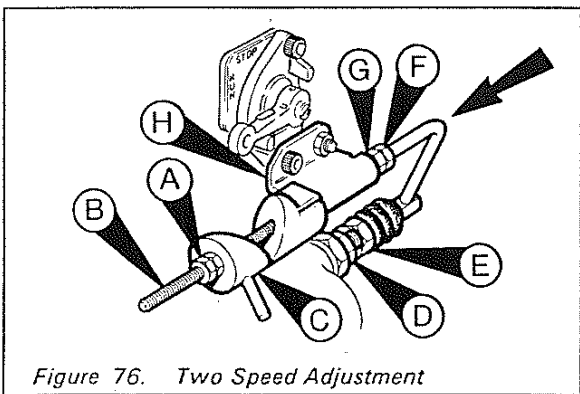

Figure 76. Two Speed Adjustment
1. Move the nuts (A) to the end of the control rod (B).
2. Move the control block (C) to the idling position; upwards from the position shown in Figure 76.
3. Slacken the locknut (D) and adjust the idling speed to approximately 1200r/min by screwing in the adjuster (E) to increase speed, or out to decrease it.
4. Tighten the locknut (D).
5. Slacken the locknut (F).
6. Move the control rod (B) in the direction of the arrow so that the nut (G) is hard against the bracket (H).
7. Maintain the nut (G) hard against the bracket and adjust the full speed by turning the nut anti-clockwise to increase speed or clockwise to decrease it. The speed should be set at 8% above the rated speed.
8. Tighten the locknut (F).
9. Move the control block (C) to the full speed position; the position shown in Figure 76.
10. Turn the nuts (A) clockwise until nut (G) is lightly touching the bracket (H) and lock the nuts (A).